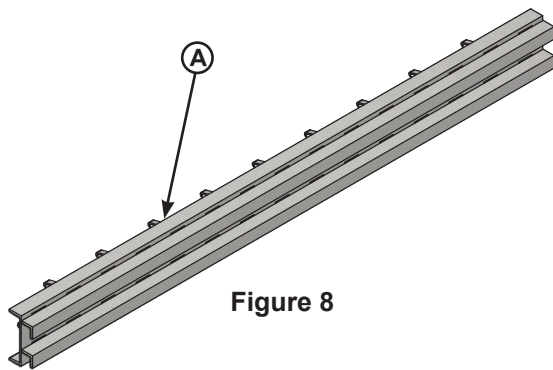
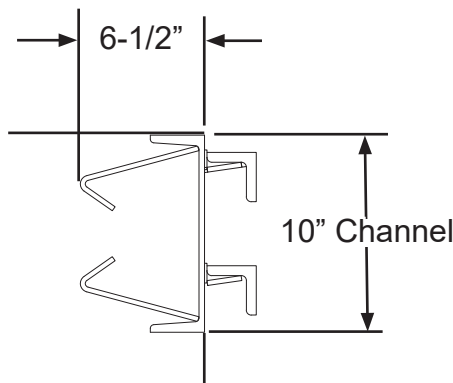
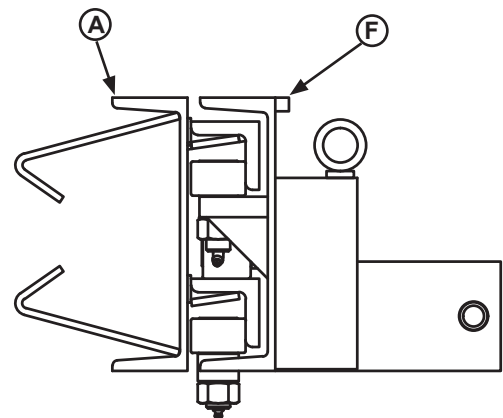

Figure 8
Figure 9
Figure 12
1. Check the roller track (A, Figure 8) for proper installation by concrete contractor according to approved/certified pit drawings. Make sure roller track is level, free from damage and clear of foreign material. See Figure 9.
- Remove (B) hoist cylinder pins at carriage.
- Remove rear hinge pins (C, platform to carriage). See Figure 12.
4. Make sure the mounting hardware of lifting brackets (D) is snug. The brackets should pivot without binding on the mounting cap screw.
6. Position the the carriage (F) so that it can slide into the roller track (A) from the side. The carriage must be installed slowly and as level as possible to prevent damage to the rollers. See Figure 12 for view of carriage installed into roller track.